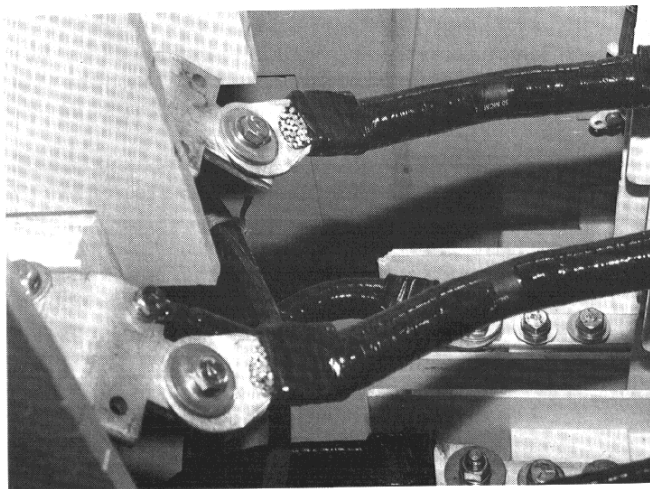

Figure 48. Line connection bolts for 400-ampere contactor.
3. Install and tighten the three load-side connection bolts. See Fig. 48.
5. Attach the line cables to the bottom of the fuse assembly. Be absolutely certain that these connections are properly tightened. See Fig. 48.